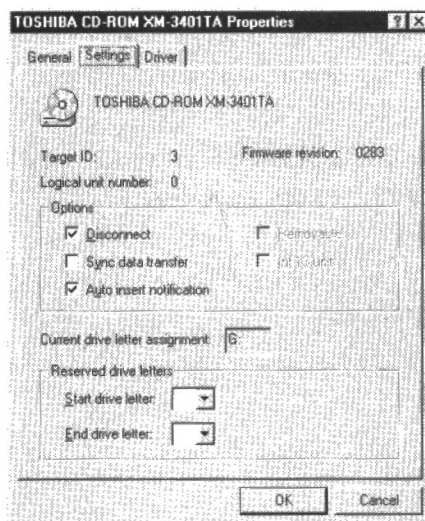

Figure 9. The Properties dialog box Settings sheet.
6. Within the Properties dialog box, click your mouse on the Settings tab. Windows 98 will display the Settings sheet, as shown in **Figure 9**.